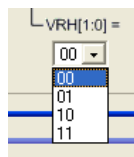

Figure 3-28
(1) Click the network by mouse, VRH can select the specified network.
(2) Click the network switch by mouse, VRH can select the specified network switch. VRH can choose the specified network.
(3) Click the network by mouse, a menu as Figure 3-28 will appear. Users can select the specified switch network.